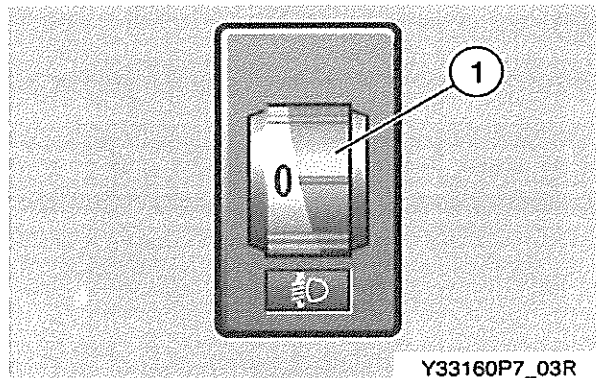

Fig 57 Headlight beam regulator rocker switch
139 Refer to Fig 57. The headlight beam regulator (1) adjusts the range of the headlight beam to avoid dazzling oncoming traffic when the vehicle is unevenly laden.